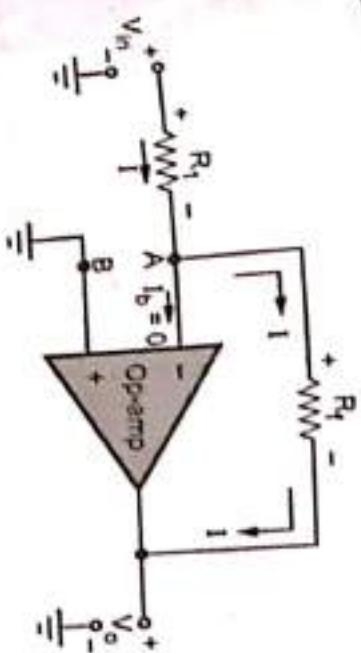

Fig. Q.44.1 Inverting amplifier
**Ans. :** • The basic circuit diagram of an inverting amplifier using op-amp is shown in the Fig. Q.44.1.